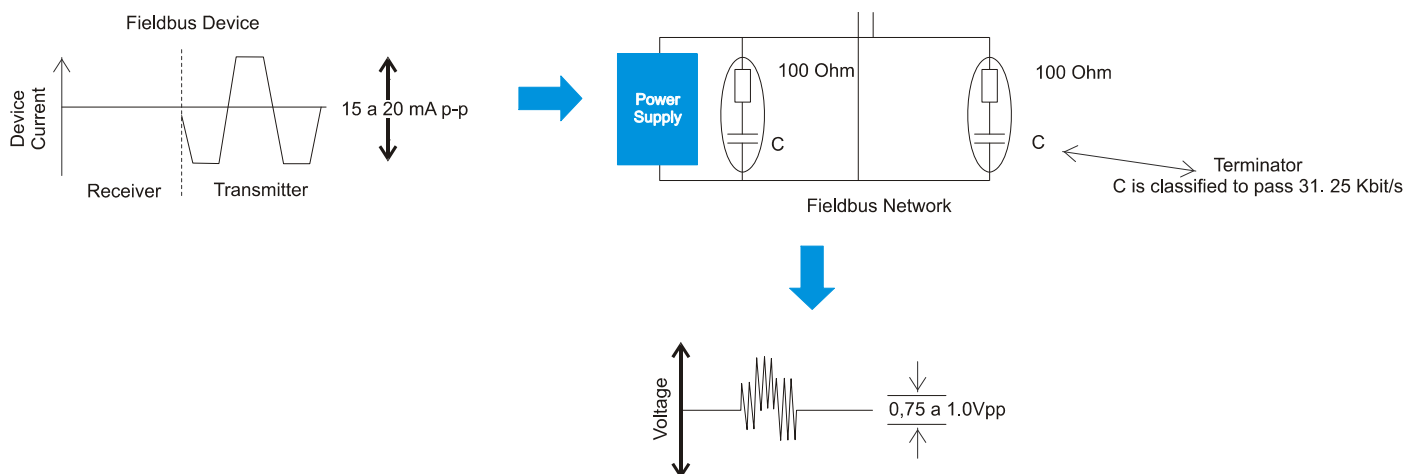

Figure 1.4 – 31.25 kbit/s Voltage Mode
An equipment transmission supplies 10 mA to 31.25 kbit/s in a load equal to 50 Ω , creating a peak to peak 750 mV to 1.0 V modulated signal voltage. The power supply can provide 9 to 32 VDC, but in safe applications (IS) it should meet the requirements of the intrinsic safety barriers. See Figure 1.4.